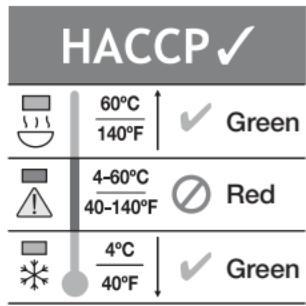

Figure 7
- The Red LED indicator light is displayed when temperatures are within the HACCP “Danger Zone” of 4°C to 60°C (40°F to 140°F) where microbe growth occurs most rapidly (*Figure 7*).